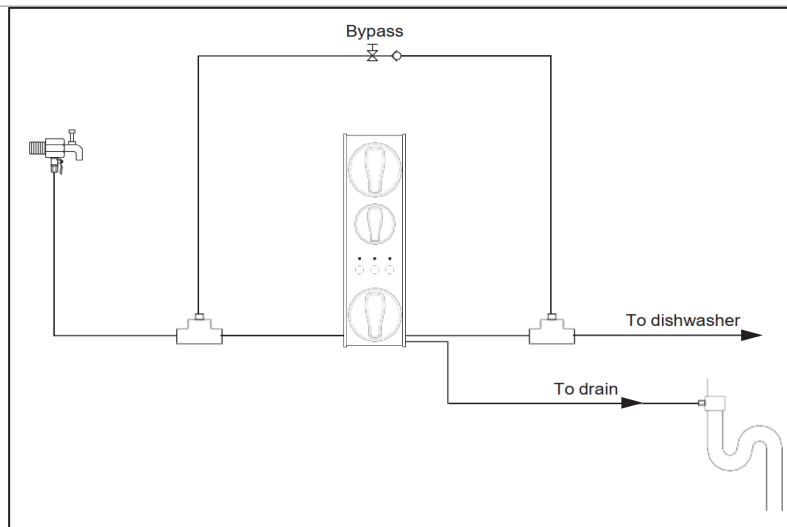

Fig. 1
- 2.1 The unit should be installed according to **Fig. 1** below. The bypass allows the dishwasher to continue to operate if the RO unit needs to be removed for servicing or membrane/filter replacement.